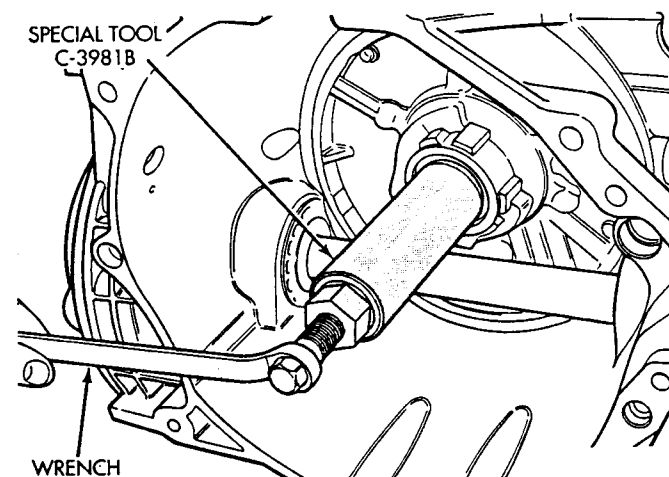

Fig. 5 Oil Seal Removal
- (1) Remove the transaxle from the vehicle.
- (2) Remove the torque converter from the transaxle bell housing.
- (3) Use special tool C-3981B to remove oil pump seal (Fig. 5).